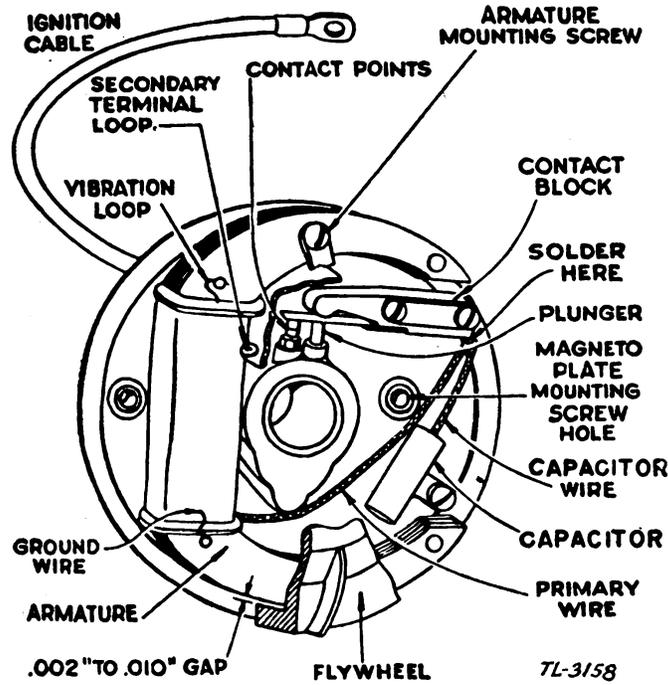

FIGURE 10. Complete magneto assembly.
a. Magneto (fig. 10). (1) The spark is produced by a high-tension magneto consisting of an armature, capacitor, contact points, and rotating magnet contained in the flywheel. The magneto, as well as the spark plug cable and the spark plug, must be in good condition and properly adjusted if the engine is to operate satisfactorily.
(2) To determine whether an adequate spark is being delivered by the magneto, remove the ignition cable from the plug. Hold the ignition cable terminal about $\frac{1}{8}$ inch from any metal part of the cylinder head. (Keep the hand on the insulated part of the cable to avoid a shock.) Turn the motor with the starter cord; if the spark jumps this gap, the
c. Spark plug cable. The insulation on the spark plug cable must be kept free of oil or water, and must not be broken. Any of these conditions may cause a ground connection to the engine and will interfere with the ignition. Solder the spark plug cable to the secondary terminal (a small brass plate coming out of the coil). Avoid touching the coil with the hot soldering iron (fig. 10). The cable is shielded to prevent radio interference.
c. Removing and replacing armature (fig. 10). **(1)** Remove the armature lead wire from the contact spring, and the high-tension ignition cable from the secondary terminal loop in the armature. (Both of these wires are soldered.) Save as much of the hydrolene as possible, so that the high-tension terminal can be insulated when the new armature is assembled. Do not use battery compound or tar, since either of these substances will melt and run over the entire magneto assembly. Unscrew the two armature mounting screws, and pry the armature loose with a screw driver.